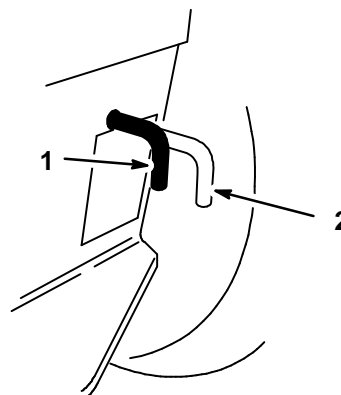

Figure 16
2. Move the drive control rod to the “PUSH” position. This disengages the drive system and allows the wheels to turn freely (Fig. 16).
1. Apply the brake, this moves the drive control rod to “OPERATE” and engages the drive system, or move the drive control rod to the “OPERATE” position (Fig. 16).